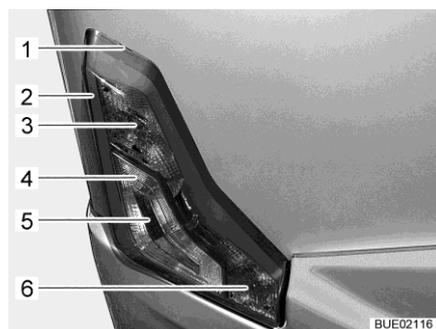

Fig. 296 Rear lights
- Insert flat tool into notch (Fig. 296,1) and carefully lever off the housing.